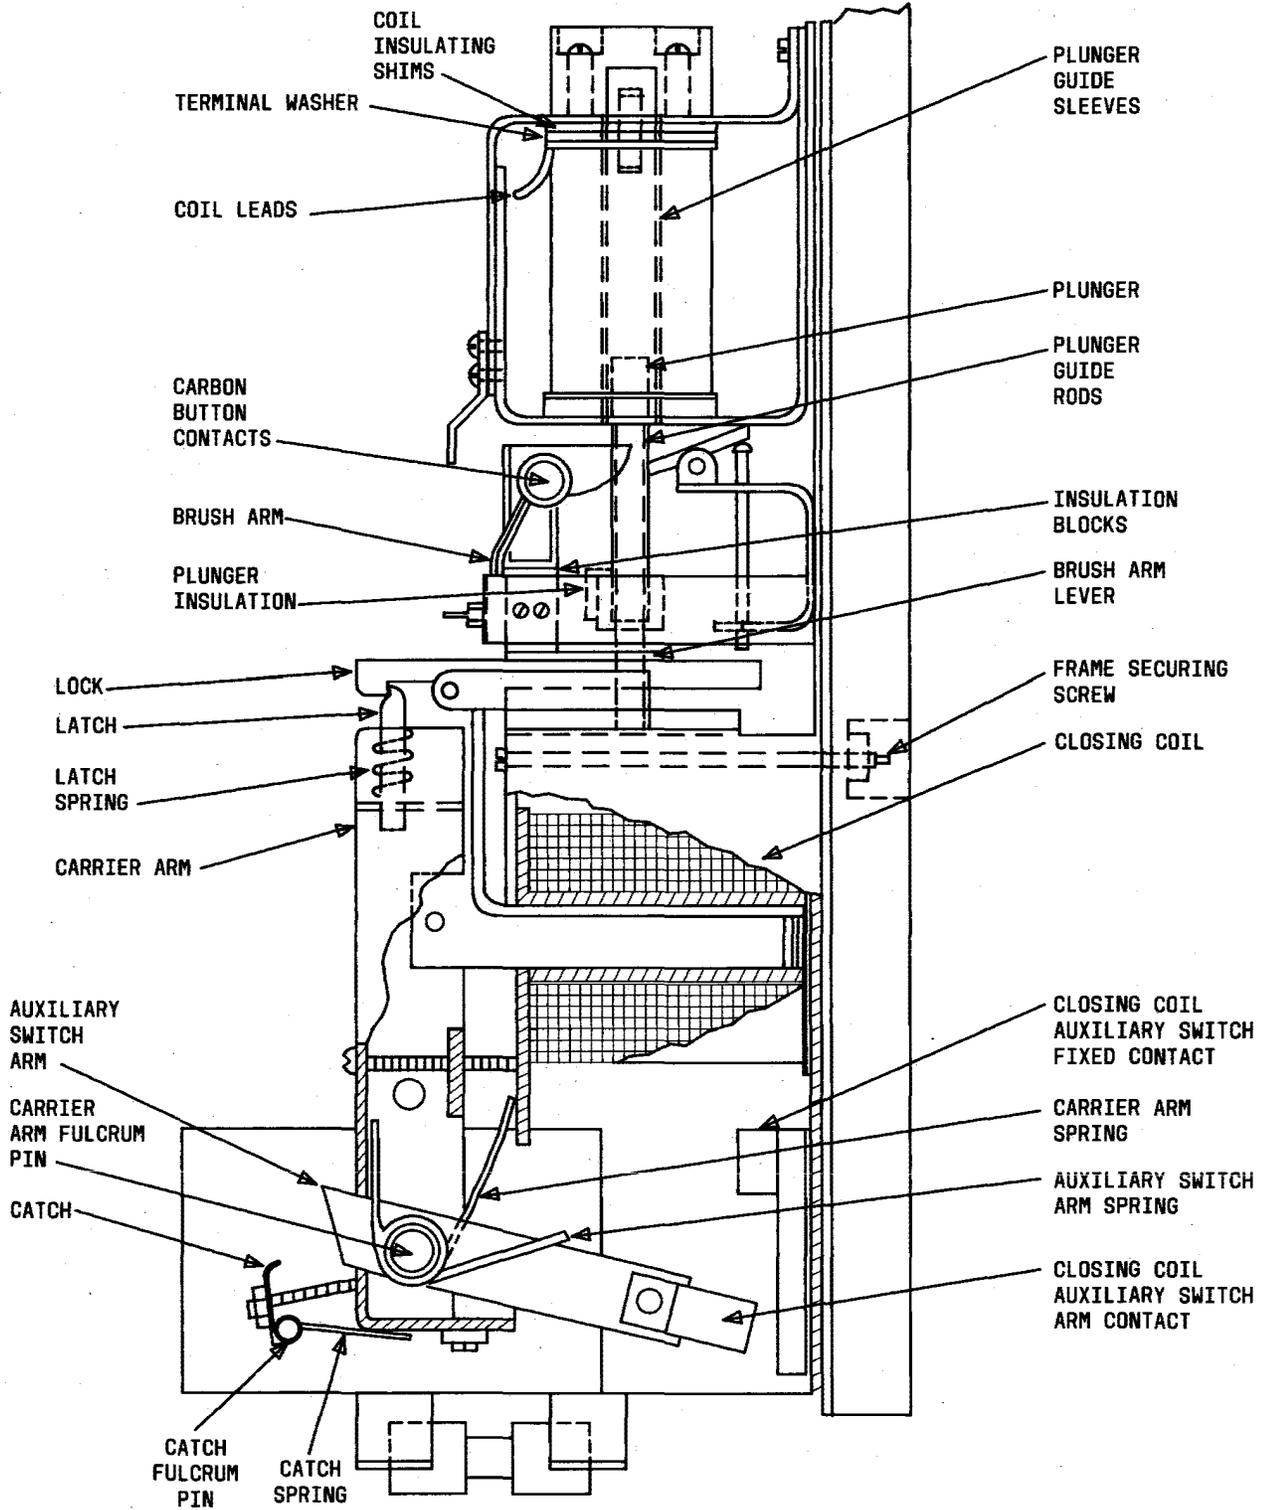

Fig. 8—Undervoltage Device and Contactor Mechanism (Main Contacts Closed, Old Version)
(1) To replace the catch or spring, remove the cover over the catch by taking out the small screws on the sides. Pull out the catch fulcrum pin through the catch. The catch or spring shown in Fig. 8 may then be replaced.
(2) The auxiliary switch arm and spring, the carrier arm and spring and the two bushings are all held in place by the carrier arm fulcrum pin which must be removed to replace any of these parts. It is also recommended that this fulcrum pin be removed when replacing the carrier arm latch or spring. It is practically impossible to assemble these parts in place in the switch and then insert the fulcrum pin. However, this can be done readily with the parts removed from the switch assembly and with the aid of a pin 1/4 inch diameter and 1-5/16 inch to 1-7/16 inch long and slightly rounded on
(3) Replace the necessary parts and assemble the carrier arm parts on the short fulcrum pin. Check that the latch pin and spring are lubricated slightly with vaseline to insure smooth action. Put the mechanism in place in the switch and push the short pin out with the regular pin. Be careful that the carrier arm spring is against the coil cover as shown in Fig. 8. The washers on the fulcrum pin on each side of the carrier arm can best be put in place with a screwdriver after the long pin is inserted. Put in the catch and connect the crossbar switch to the carrier arm.
- (1) Although the coil can be replaced with the switch mechanism in the cabinet, it is easier to remove the contactor switch and undervoltage device to a bench. This may be dismantled by designating and disconnecting the wires to the securing screws shown in Fig. 8.
- (2) With the mechanism on the bench, take off the nameplate cover and the small base panel mounting the fuse. Remove the catch and push out the carrier arm fulcrum pin with the short pin (1/4 inch diameter and 1-5/16 inch to 1-7/16 inch long as referred to in the previous heading) and take out the carrier arm mechanism as a unit. Note the position of the washers on the armature lock and take off the cover. Unsolder the coil connections, replace the coil and solder the connections. Assemble the parts in the reverse order.
- (4) The coils may be readily replaced. Carefully solder the cut leads to the respective leads on the replacing coil. Cover the soldered joint with friction tape. Note that the coil insulation is put back in place and that the ends of the plunger guide sleeves are fitted into the coil casing on both ends. The plunger should be inserted so that it will be above the brush arm lever, as shown in Fig. 8, and so that the insulation will be next to the brush arm. In mounting the case, be careful that the plunger guide rods fit into their holes without binding. Assemble the parts and be sure that the leads do not bind the switch.